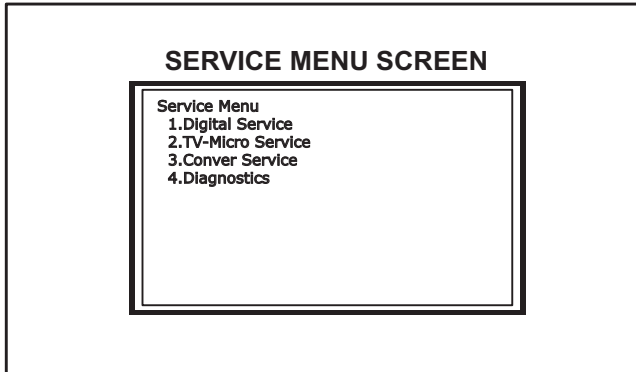

Fig.1
- (1) Set to "0 minutes" using the [SLEEP TIMER] key.
- (2) While "0 minutes" is displayed, press the [VIDEO STATUS] key and [DISPLAY] key simultaneously.
- (3) Enter the SERVICE MODE (Fig.1)